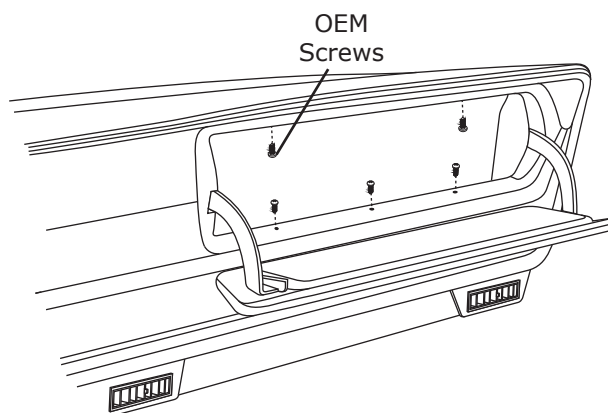

Figure 17a
6. Secure glove box to glove box compartment using OEM screws (See Figure 17a, below).